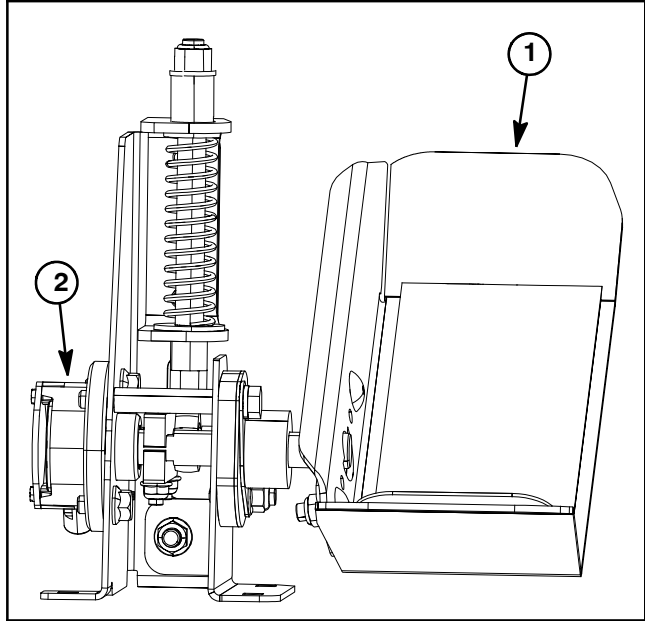

Figure 67
The traction pedal position sensor is connected to the traction pedal assembly (Fig. 67). This position sensor determines the neutral band for the traction pedal, the direction of travel desired by the operator and the traction speed. The position sensor is a single analog, dual digital signal electronic device. The position sensor portion is a variable resistor that provides an analog signal for the TEC controller to determine the desired ground speed based on how far the traction pedal is moved. The traction pedal position sensor also houses two (2) switches that are used to determine the neutral position (deadband) and the indicated direction of travel (forward or reverse). As the traction pedal is depressed, the internal wiper of the position sensor moves and sends the analog signal to the TEC controller to determine machine direction and speed.